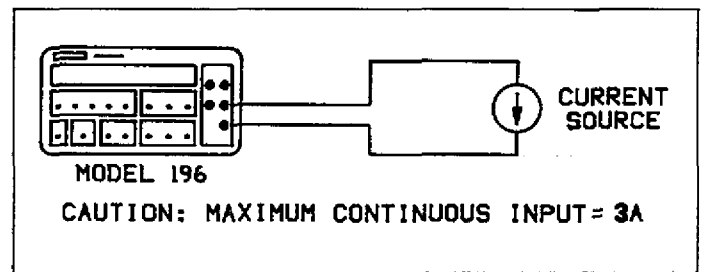

Figure 2-7. Current Measurements
- Connect the signal to be measured to the selected input terminals as shown in Figure 2-7.